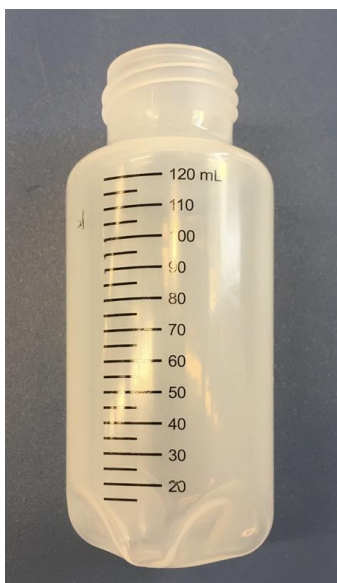

Figure 16. Large format Fmoc-amino acid bottle
1. Prepare Fmoc-AA solutions in new 50 mL tubes. If your batch of peptides requires more than 40 mL volume use a large format AA bottle found in cabinet under synthesizer. (Figure 16)